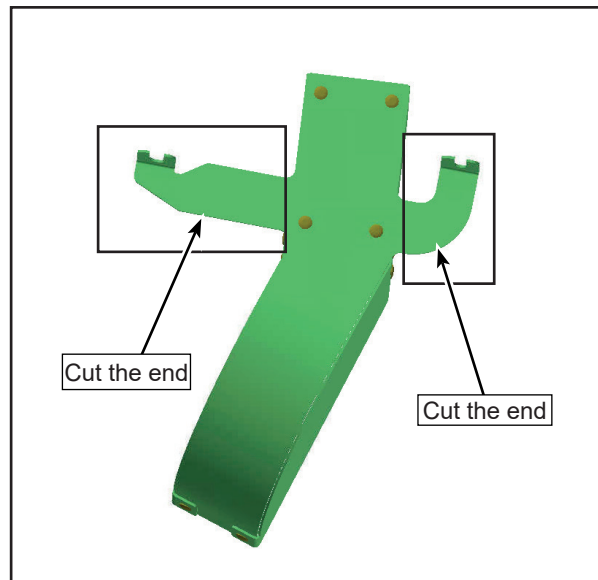

Figure 2 - View of Original Deflectors
- 1.6. Cut each end of the Original deflectors to install the new bracket (see figure 2).